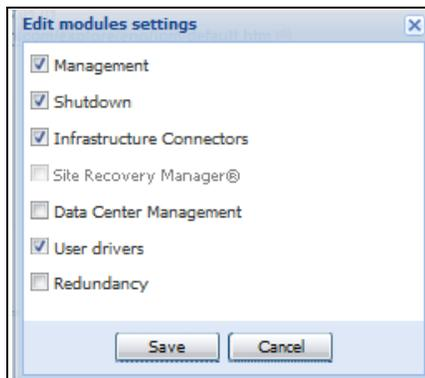

Figure 73. Enable Infrastructure Connectors Setting for Virtualization
1. From the left-side **Views** panel of the Eaton IPM main interface window, select the **Settings > System** menu item. The System page displays (see Figure 73).